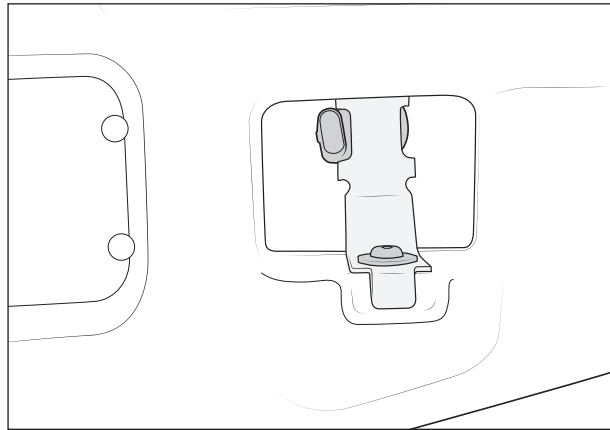

Figure 40
- D. Once window has been cut out and the outside hole drilled, install factory park sensor using one of the shorter AEV supplied brackets, a silver M6x16 Hex head bolt, and washer (fig. 40). The sensor connector should be oriented inboard on vehicle.